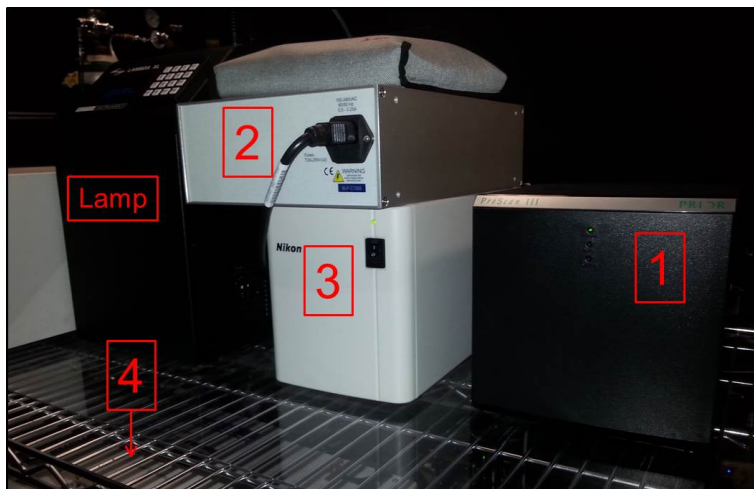

Figure 3: Peripherals and Lamp.
4. Turn on the microscope peripherals (Figure 3).
- (a) Turn on the Prior XY stage (1).
- (b) Turn on the z-axis piezo (2).
- (c) Turn on the microscope power supply (3) and wait until initialization is complete.
- (d) Turn on the microscope control box (4).
5. Turn on the arc lamp for visualization (Figure 3).